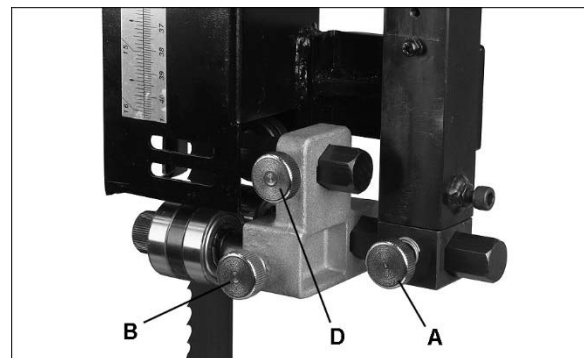

Figure 7-15
Refer to Figures 7-15 and 7-16.
4. Loosen lock knob (A, Figure 7-15).